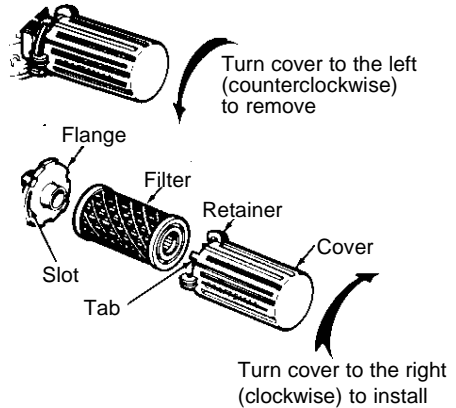

FIG. 2-MAINT.
- Push the cover firmly against the flange and turn it to the right clockwise as far as it will go as shown in **Fig. 2-MAINT** below. Be sure the retainers are locked around the flange.